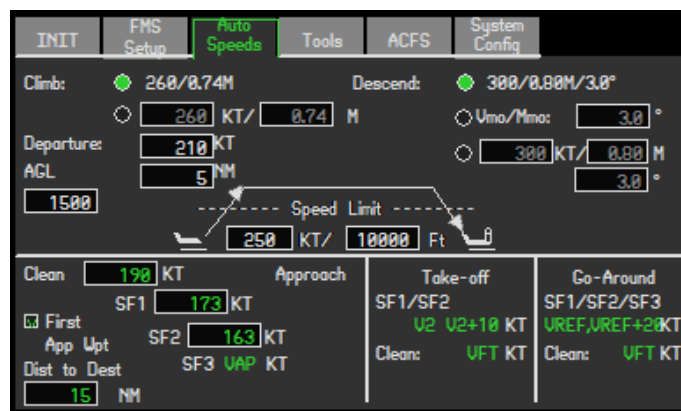

Figure 44 - AUTO SPEEDS MENU
- o Speed Mode – uses the FMS speed setting on the Auto Speeds menu (see Figure 44).